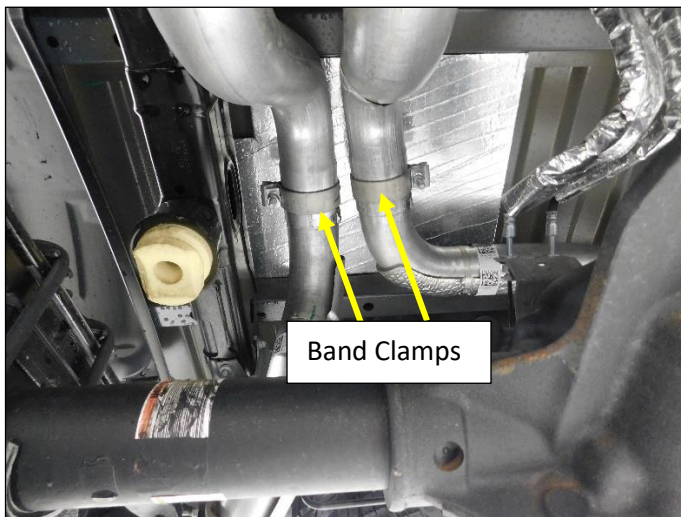

Figure 1
2. Loosen the 15mm nuts on the tailpipe band clamps directly over the rear axle (Non-Hybrid shown). **Fig. 1**